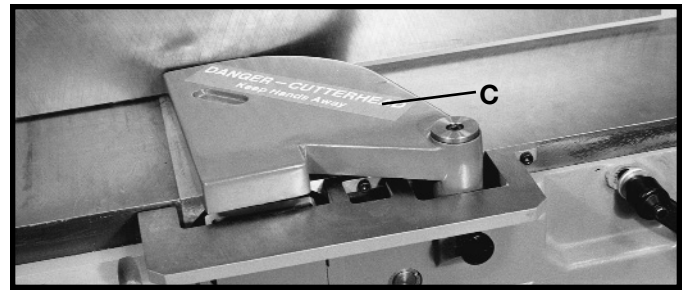

Fig. 23
2. Remove cutterhead guard (C) Fig. 23.